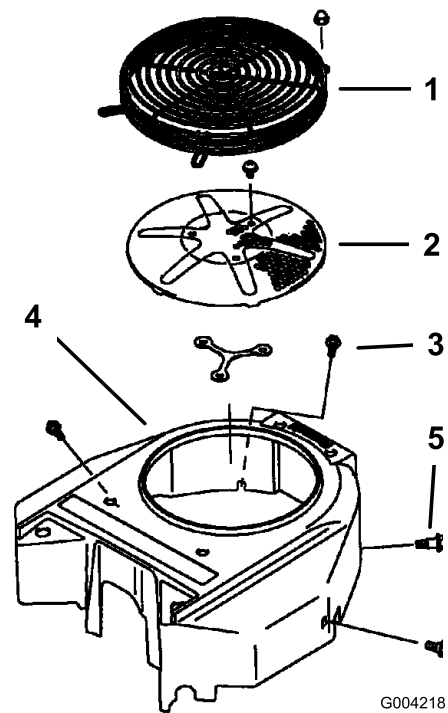

Figure 65
Before each use remove any buildup of grass, dirt, or other debris from the engine screen. This will help ensure adequate cooling and correct engine speed and will reduce the possibility of overheating and mechanical damage to the engine (Figure 65).
3. Remove the air intake screen, recoil starter and fan housing (Figure 65).
5. Install air intake screen, recoil starter and fan housing (Figure 65).